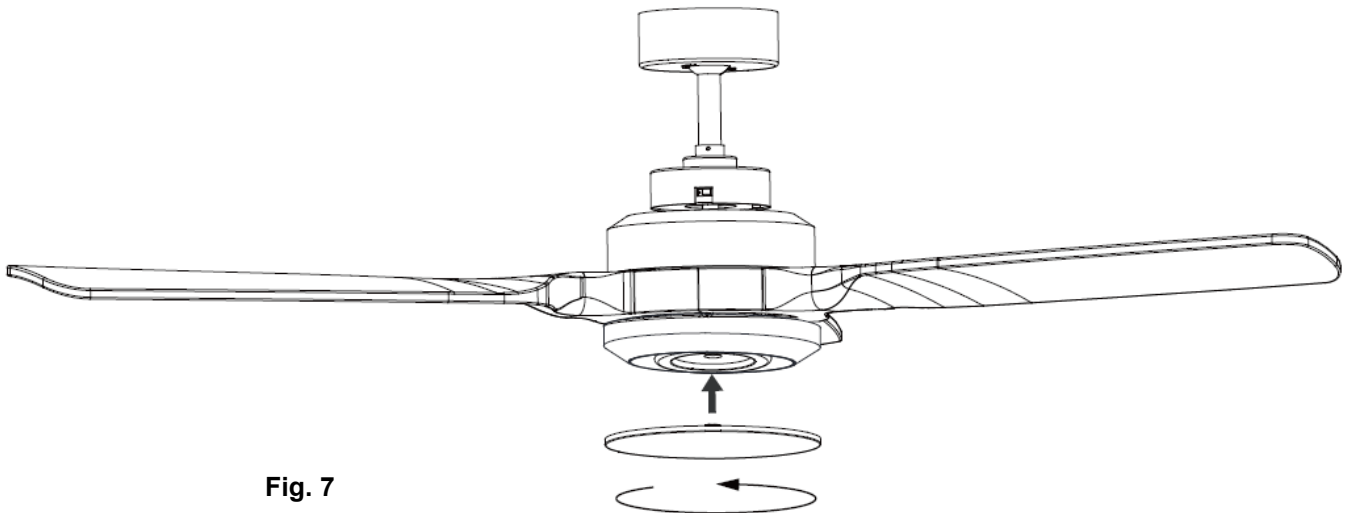

Fig. 7
- Install the bottom cover onto the motor shaft by rotating it clockwise. (Fig. 7)